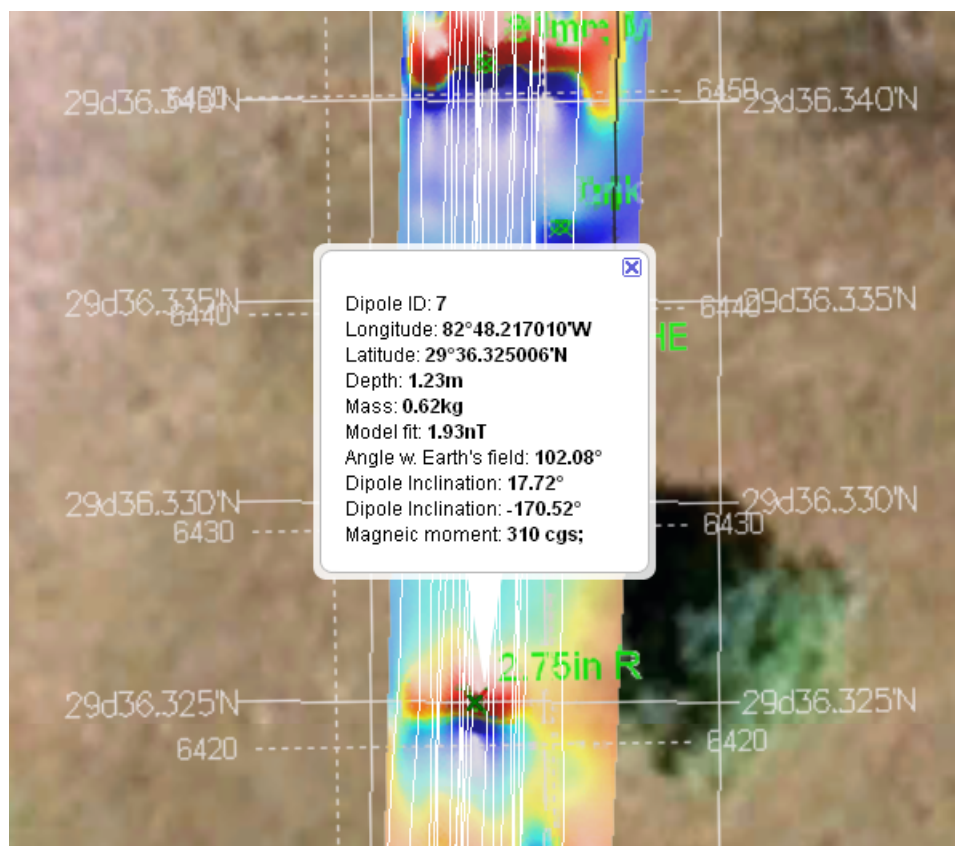

Figure 94: Exporting dipole locations to Google Earth.
5. **Report...** These check boxes control which part of the dipole information is to include in the GE balloon. The GE map on figure 94 shows the dipole information in the case where they all are selected. Note that the dipole Ids are displayed on GE the same way as they are displayed in MagPick (if they are enabled on the screen in MagPick, they also appear as numbers on GE screen).